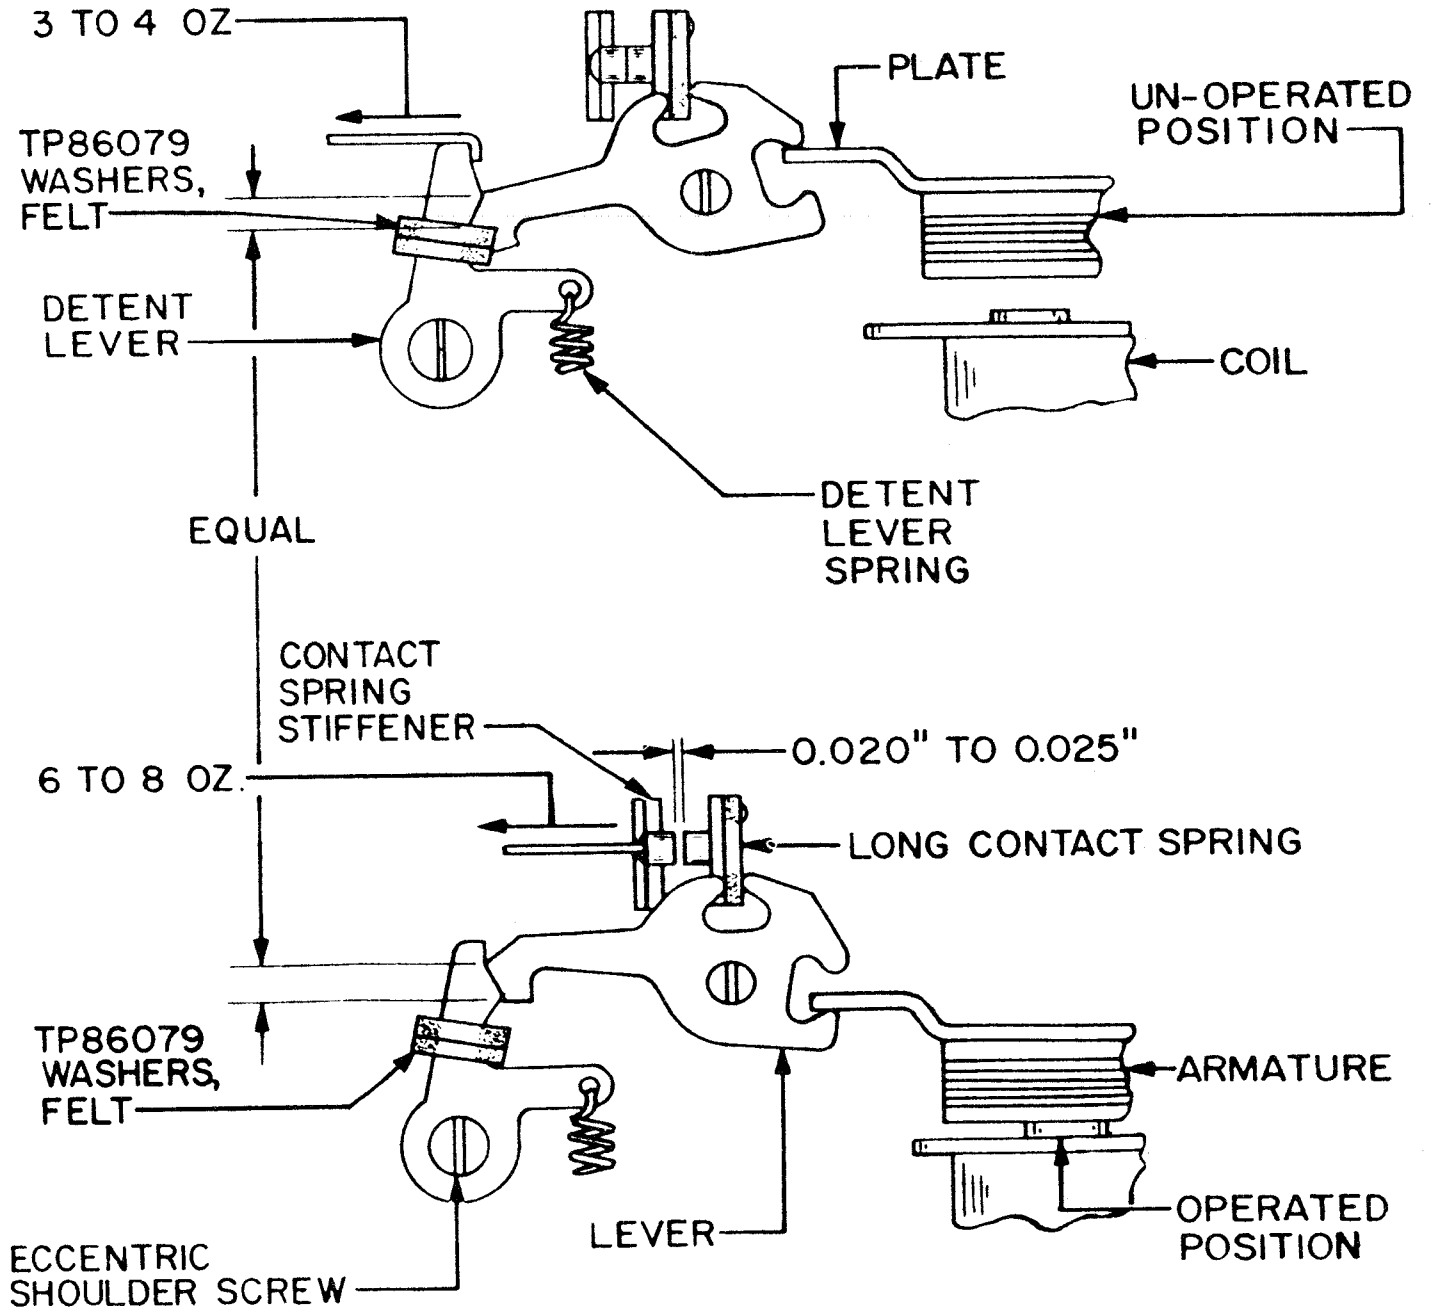

Figure 57
10.02 Detent-lever-eccentric Screw: With the armature in its unoperated position and the lever held against the top of the plate, the detent point of the lever should be approximately as far below the apex of the detent lever as it is above the apex of the detent lever when the armature is in its operated position and the lever is held against the bottom of the plate. See Figure 57.
10.03 Detent-lever Spring: It should require minimum 3 ounces, maximum 4 ounces to move the detent lever away from the lever when the armature is in the unoperated position and the lever held against the top of the plate. See Figure 57.
(2) It should require minimum 6 ounces, maximum 8 ounces, to separate the contact spring from the end of the stiffener. See Figure 57.
- (4) There should be minimum 0.020 inch, maximum 0.025 inch clearance between the contacts when the armature is held in the operated position electrically. See Figure 57.